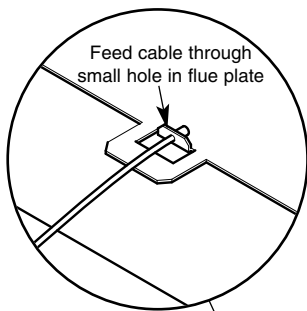

Fig. 11
5. Feed the cable through the hole in the top flange of the fire box from the rear (Fig. 11).